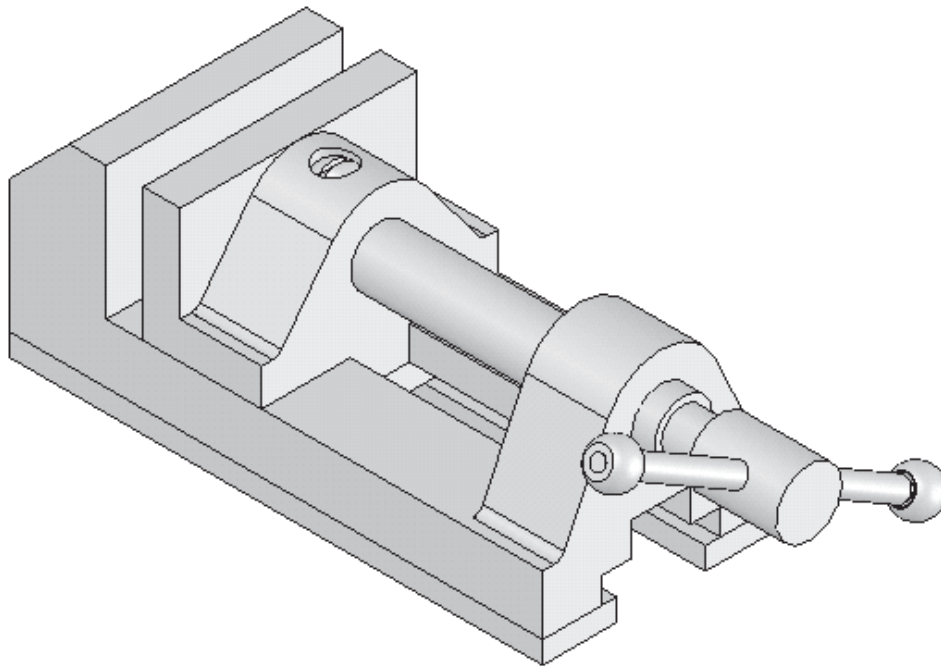
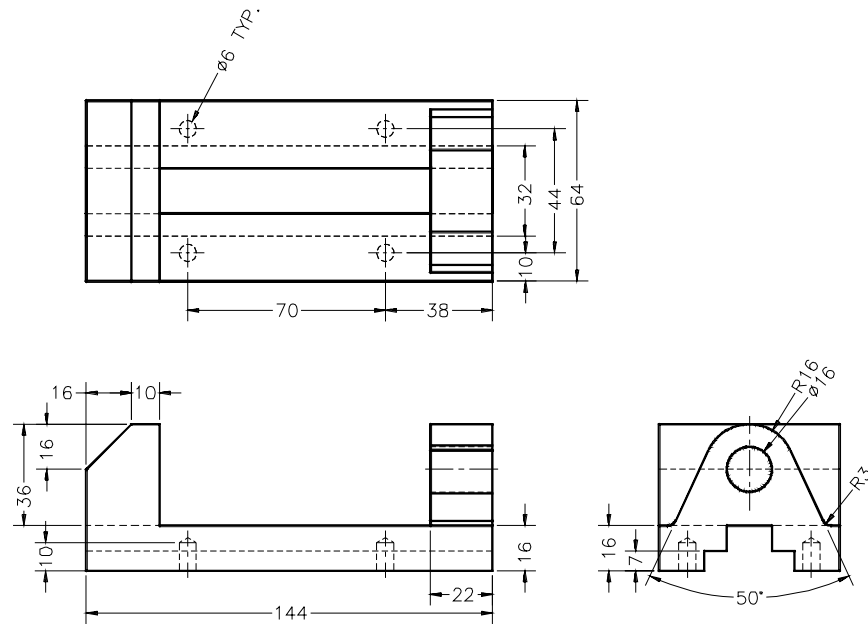

Figure 11-49 Bench Vice assembly
Figure 11-50 Views and dimensions of the Vice Body
In this tutorial, you will create all components of the Bench Vice and then assemble them. The Bench Vice assembly is shown in Figure 11-49. The dimensions of various components of the assembly are given in Figures 11-50 through 11-53. **(Expected time: 2 hrs 45 min)**
- Create all the components of the Bench Vice assembly as separate part documents. Specify the names of the documents as shown in Figures 11-50 through 11-53. The files should be saved in the folder `\My Documents\SolidWorks\c11\Bench Vice`. Make sure that the *Bench Vice* is your current folder.